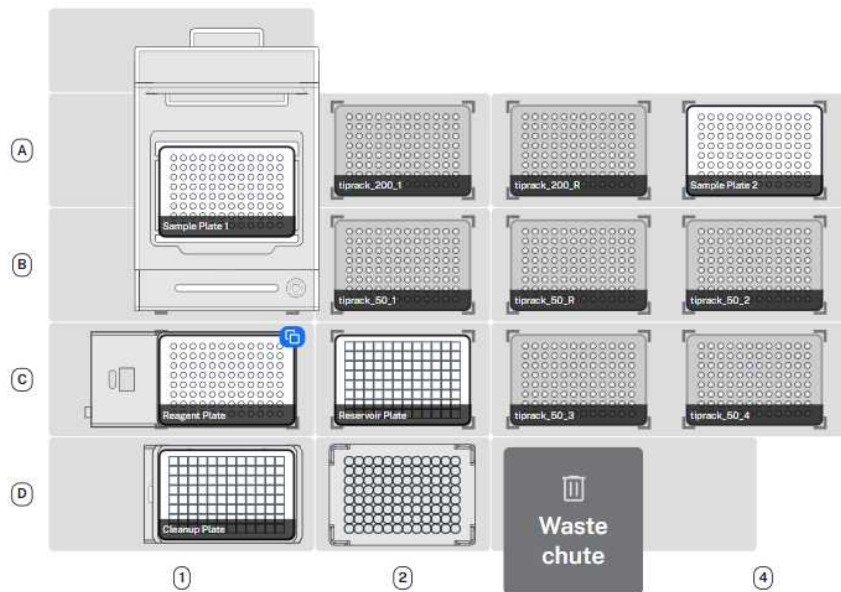

Figure 14. Opentrons Flex deck set-up prior to executing the protocol.
- Place reagent, sample, and reservoir plates on the deck as shown in Figure 14.
- When the Opentrons Flex finishes the protocol, the resulting libraries will be located in "Sample Plate 2", depicted in deck location A4 on Figure 14. Cover the plate with a plastic or foil seal and store at -20°C.